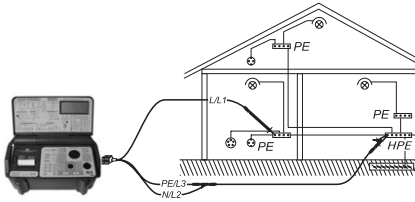

Figure 6.2.1 Connection of test leads
► Connect the desired test lead to the measurement connector (17) of UNITEST EURO EXPERT plus..
► Connect the test leads to UUT in accordance with Figure 6.2.1. or 6.2.2.